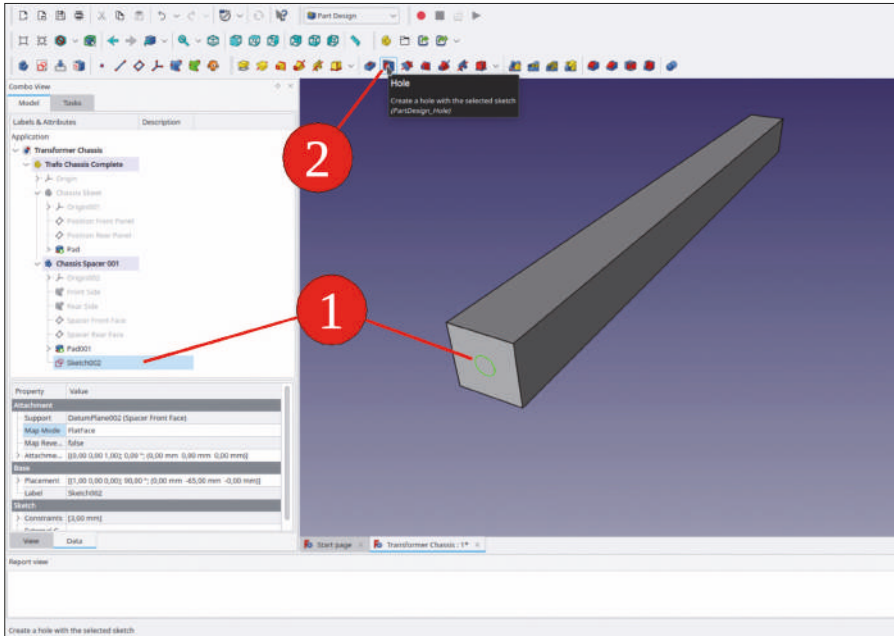

Figure 9-62
33. In the tree view, mark the new sketch and click the 'Hole' tool button (Figure 9-62).